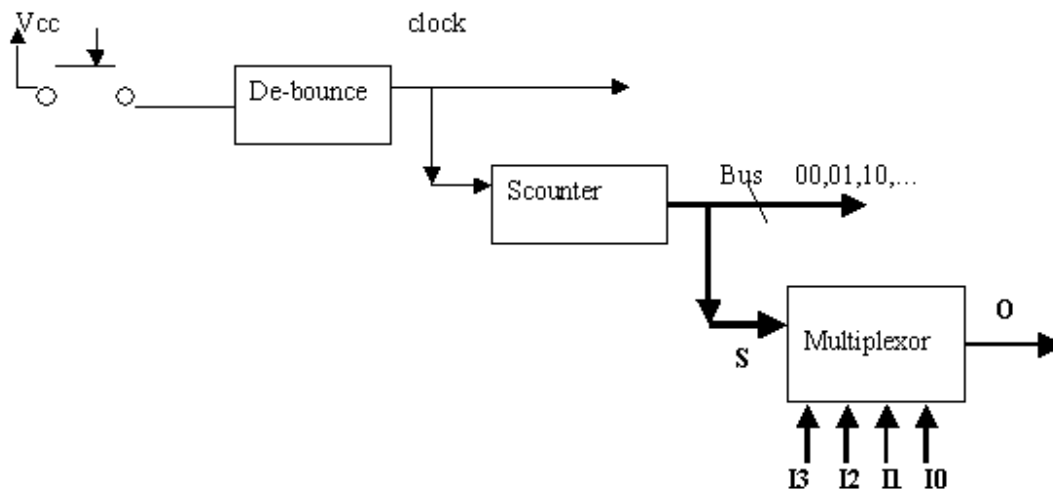

figure 3
1.Using push-button to generate clocks and count the number of clocks using the figure 3's suggestion.